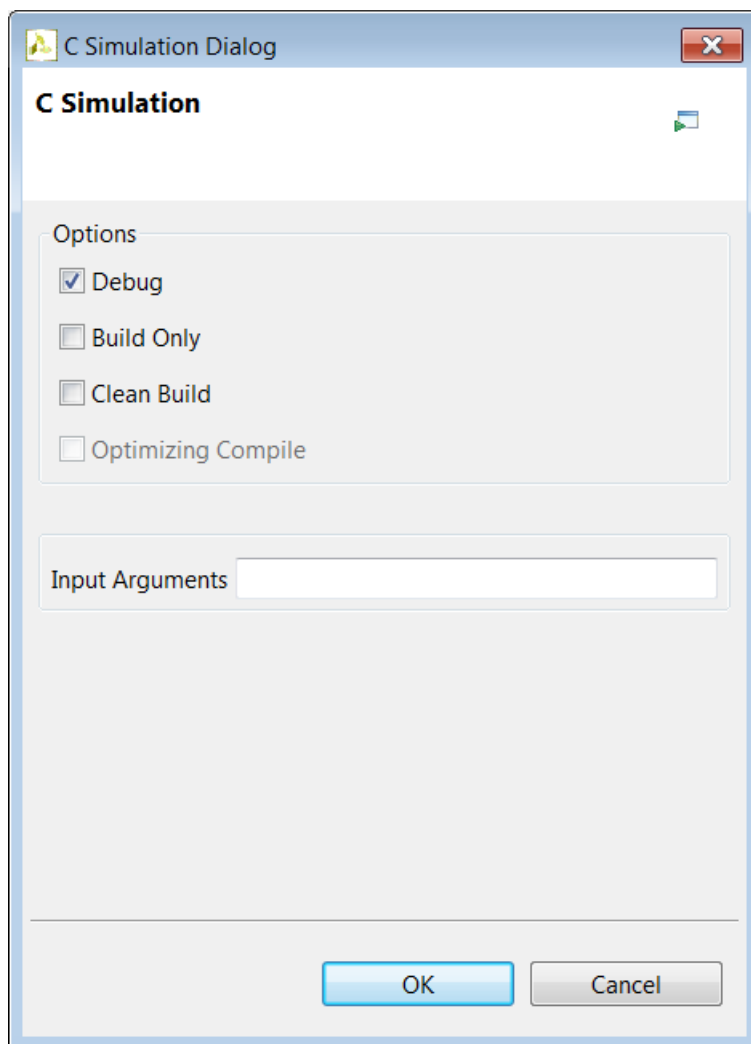

Figure 38: C Simulation Dialog Box
- Select the **Debug** option as shown in Figure 38.